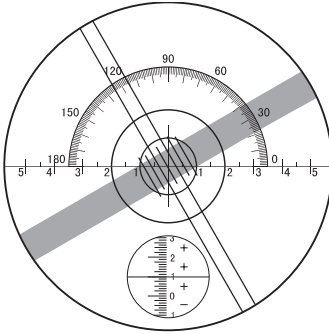
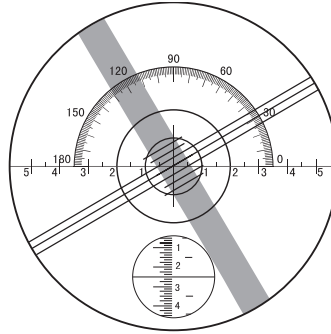

Fig.8.5.1 Image at $+1m^{-1}$
Fig.8.5.2 Image at $-2.5m^{-1}$
Step 4: Astigmatism axis angle is directly shown on the astigmatism axis measuring handwheel, which is 30° , as is shown in Fig.8.5.1 and Fig.8.5.2.